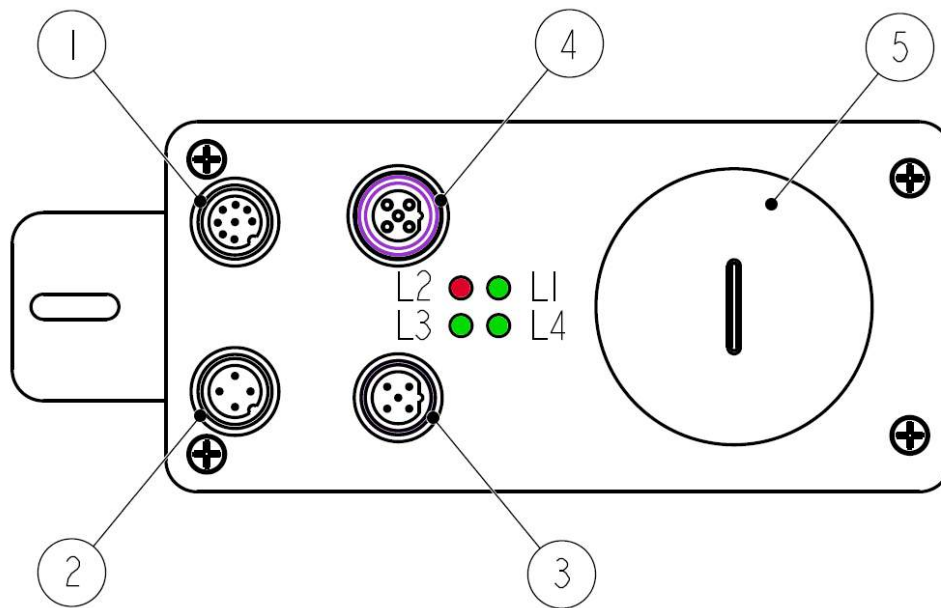

Figure 4: Electrical connections
4.2 Connectors (Figure 4)
4.3 Diagnostic LEDs (Figure 4)
Four LEDs located next to the BUS IN & BUS OUT connectors (see Figure 4) are meant to show visually the operating or fault status of the fieldbus interfaces and the device as well. The meaning of each LED is explained in the following tables.